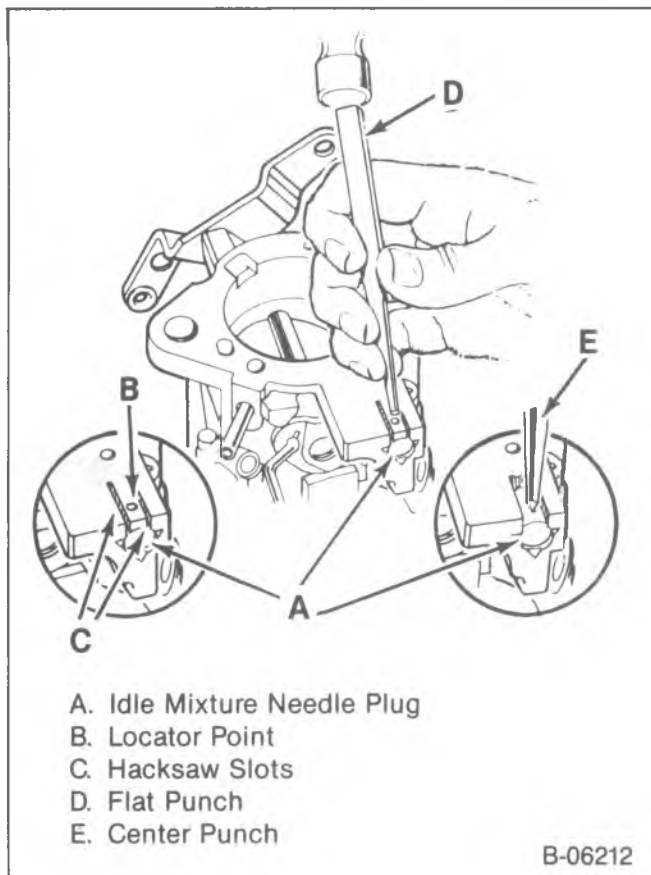

Figure 12—Removing the idle Mixture Needle Plug
4. Remove the idle mixture needle plug (figure 12).